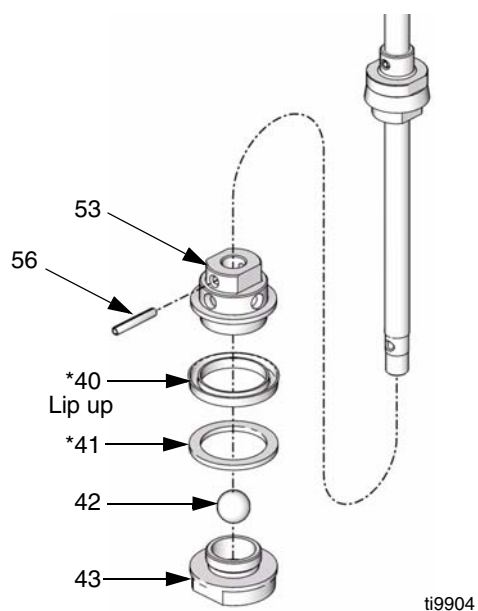

FIG. 20
8. Remove spring pin (56). Remove piston valve assembly. Unscrew piston valve (43) from piston housing (53). Remove wear ring (*41), u-cup (*40) and ball (42). Inspect all parts for damage. See FIG. 20.